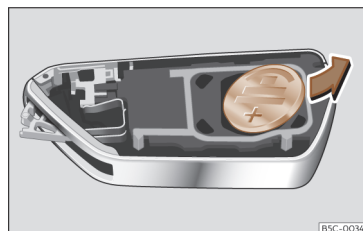

Fig. 68 Vehicle key: removing the battery.
- Remove the battery from the compartment with a suitable thin object >>> Fig. 68.
- Insert the new battery and press it into the battery compartment >>> ①.